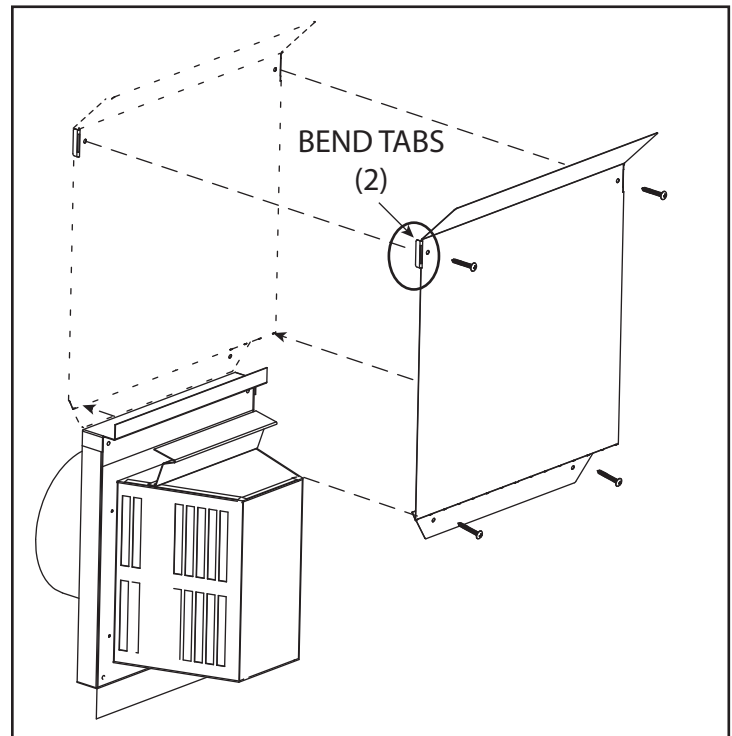

FIGURE 3
3. Once the VPK-DV is secured to the termination cap, bend the VPK-DV along the long, horizontal hand bend. Ensure the two hand bend tabs are bent toward the vinyl siding as shown in Figure 3. There is one hand bend tab on each side.